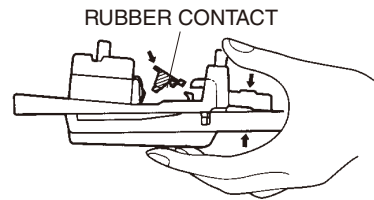
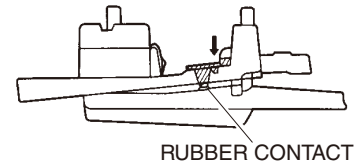

Fig. 14
Fig. 15
- 21-4. Install the rubber contacts while pulling the keys up. (Fig. 14, Fig. 15)